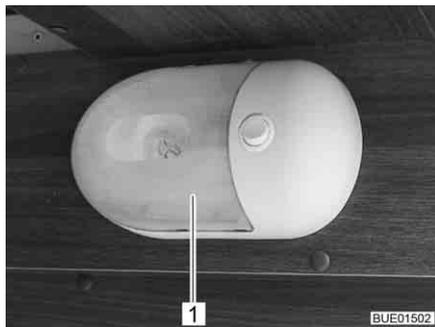

Fig. 242 Garage light
- Carefully push the transparent cover (Fig. 242,1) together from both sides, pull it lightly from the switch and pull it off forwards.